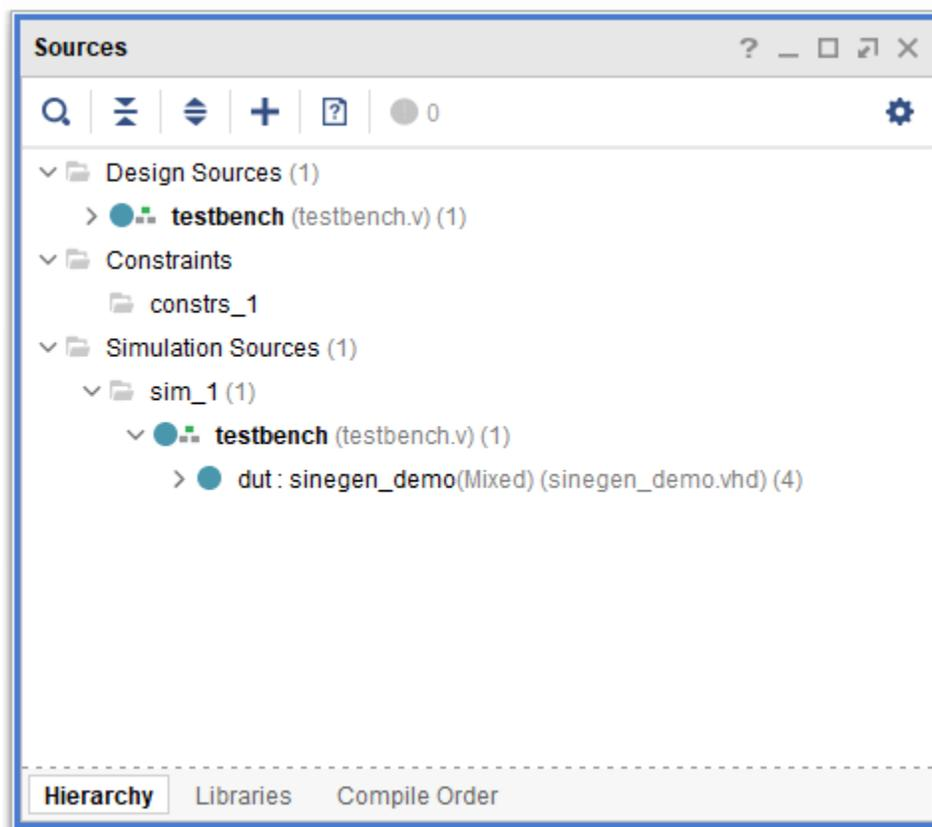

Figure 8: Sources window
1. Click the > icon in the Sources window to expand the folders as shown in Figure 8. Expand all > button can be used to view all the files at all levels of hierarchy.